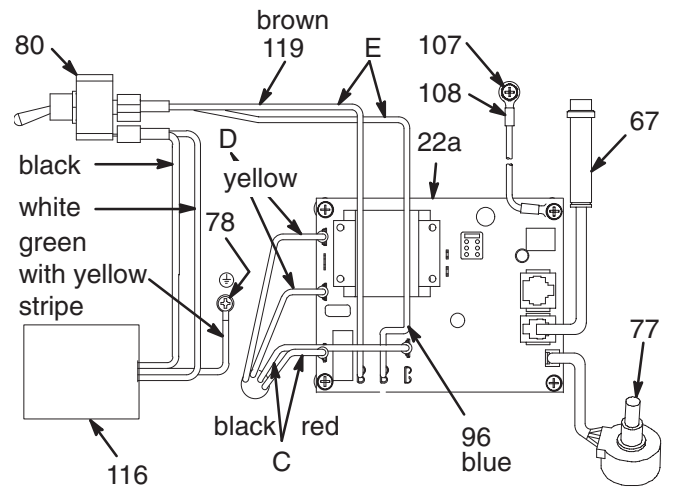

Fig. 4 Models 232138, 232135, 232139, 232134
4. Fig.4. Remove screws (25, 26). Lower control board (22a). Disconnect two leads (C) from motor to board.
1. Fig. 4 Connect red and black motor leads (C) together with a test lead. Turn motor fan by hand at about two revolutions per second.
8. Tap lower rear of drive housing (2) with a plastic mallet to loosen motor. Pull drive housing straight off motor while guiding pressure transducer wire (A) from motor. Do not allow gear (13) to fall. Read CAUTION on page 15.
9. Remove four screws (75) and lift motor off cart (70).
10. Align new motor with cart and reinstall screws (75).
12. Connect wires to motor control board (22a). Refer to Fig. 4. Install motor control board.
13. Connect piston rod (222) to drive housing; see page 11, **Installing Pump**, Step 2 and WARNING following it.
14. Install shroud (32) and drive housing cover (11).
3. Disconnect wires (C), (D), (96), (E) and 108 from motor control board (22a). See Fig. 4.
4. Disconnect potentiometer (77) and transducer (67) from motor control board (22a).
6. Install new motor control board (22a) with four screws. Reconnect all wires and secure heat sink (22) to junction box (20).
3. Disconnect power cord leads (30), including green wire to grounding screw (78). See Fig. 4.
4. Loosen strain relief bushing (29). Remove power cord (30).
5. Install new cord (30) in reverse order of disassembly.
6. Install heat sink (22). Be sure no leads are pinched between heat sink and junction box (20).
3. Remove rubber boot (82). See page 20.
4. Disconnect black, white, brown and blue wires from ON/OFF switch (80) and remove switch. See Fig. 4.
5. Install switch so internal tab of anti-rotation ring (81) engages with vertical groove in threads of switch, and external tab engages with slot of junction box. See page 20.
6. Powder inside of rubber boot (82) with talcum, then shake excess out of boot. Install nut and rubber boot and tighten.
7. Reconnect black, white, brown and blue wires to ON/OFF switch (80).